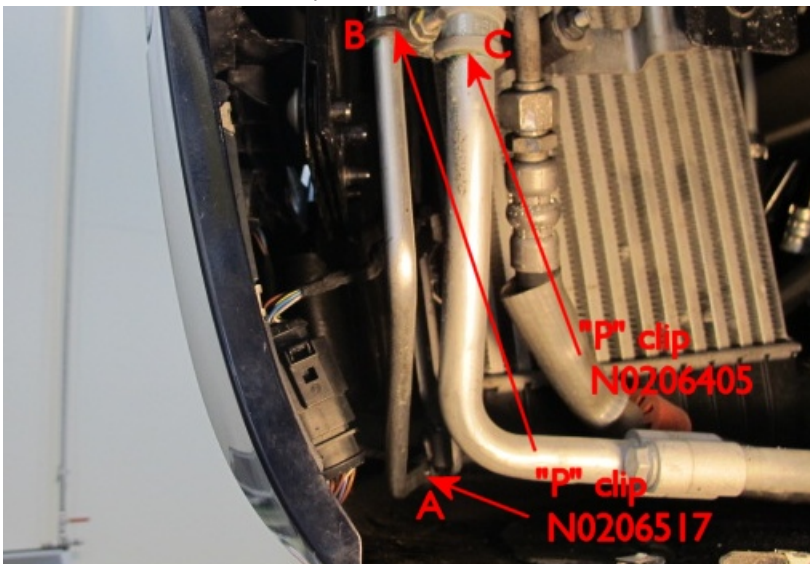

Figure 1
5. Referencing figure 1 identify the three P clips (A,B and C) located in the front left wheelarch that require replacement
6. Using a T30 bit loaded into a ratchet spanner remove the fastener securing P clip (A). Remove and discard clip A (see Figure 1 and 2)
- Remove and discard clips B and C (see Figure 1)